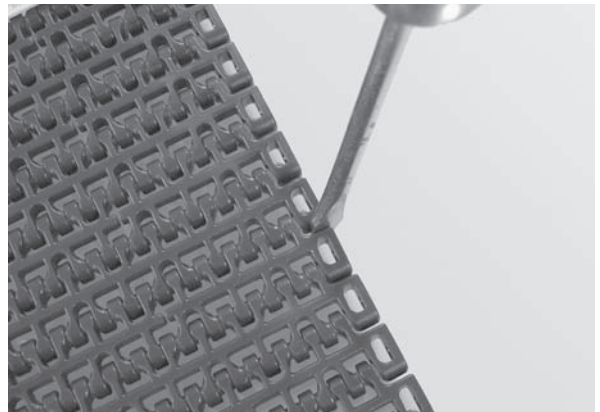

Figure 52
1. Place the edge of a flat head screwdriver between the two belt links and turn clockwise (Figure 52).